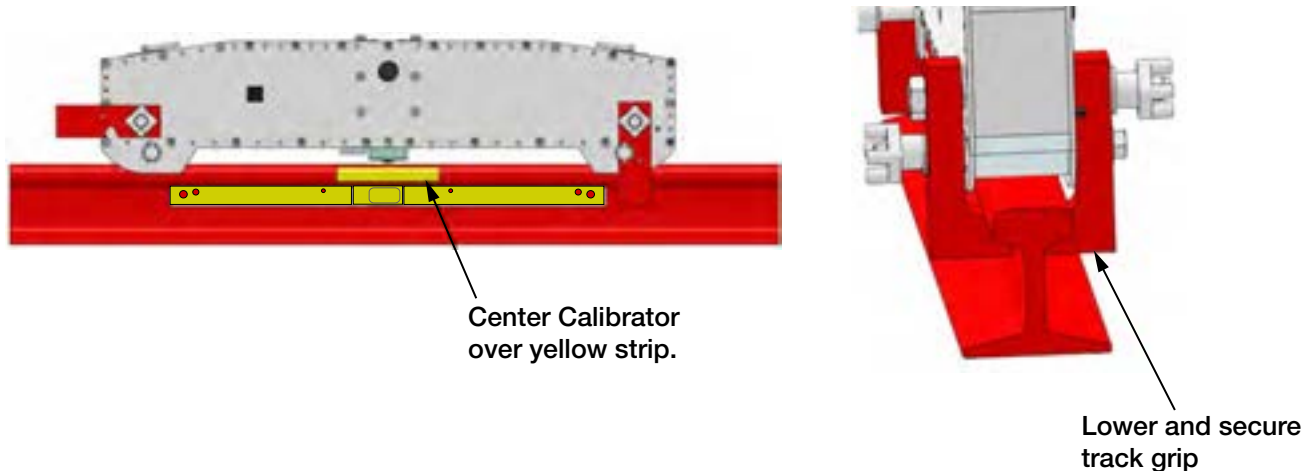

Figure 5-2. RailBoss Calibrator on RailBoss Scale
1. Make sure jumpers are in place to enable trimming of the cells corresponding to each load cell. See Figure 5-2 for the location of jumpers JP1, JP2, JP3, and JP4.
2. Set all potentiometers fully clockwise to give maximum signal output from each cell (see Figure 5-2 for location of potentiometers)